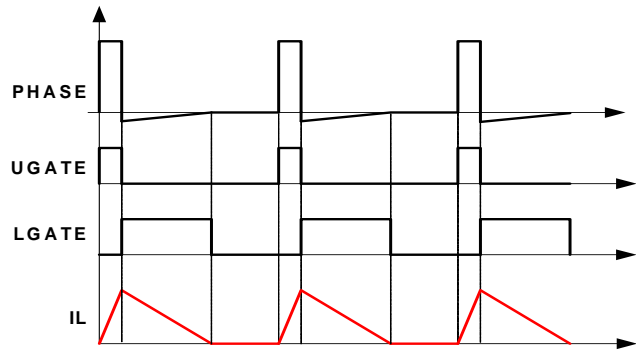

FIGURE 10. DIODE EMULATION
The ISL6267 can operate in diode emulation (DE) mode to improve light-load efficiency. In DE mode, the low-side MOSFET conducts when the current is flowing from source to drain and does not allow reverse current, thus emulating a diode. As Figure 10 shows, when LGATE is on, the low-side MOSFET carries current, creating negative voltage on the phase node due to the voltage drop across the ON-resistance. The ISL6267 monitors the current by monitoring the phase node voltage. It turns off LGATE when the phase node voltage reaches zero to prevent the inductor current from reversing the direction and creating unnecessary power loss. If the load current is light enough, (see Figure 10). The inductor current reaches and stays at zero before the next phase node pulse, and the regulator is in discontinuous conduction mode (DCM). If the load current is heavy enough, the inductor current will never reach zero, and the regulator is in CCM, although the controller is in DE mode.